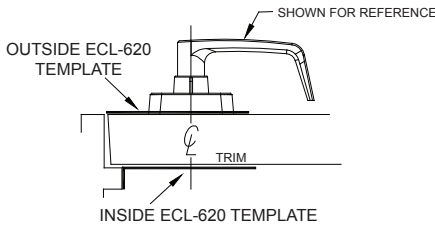
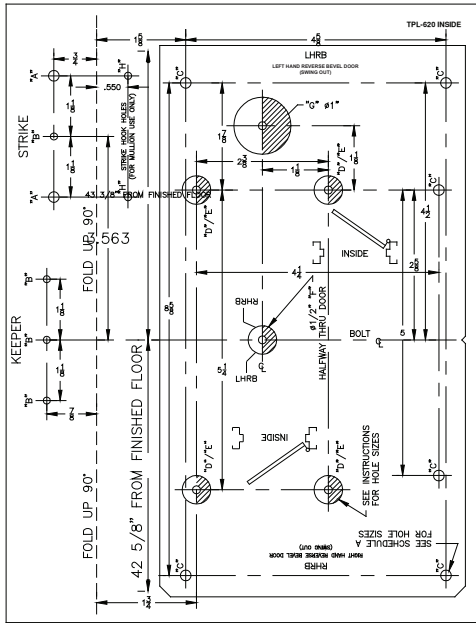

Fig. 4
Fig. 5
3. Orient the **INSIDE** template TPL-620 for proper door handing and tape to door per Fig 4. See Fig 5 for hole locations.
- a. Mark, center punch and drill six (6) holes marked "C" on the door.
- b. Mark, center punch, drill and tap the two (2) outer holes of the strike, marked "A" on the frame.
- c. Mark, center punch, drill and tap the two (2)* outer holes of the keeper, marked "B" on the frame.